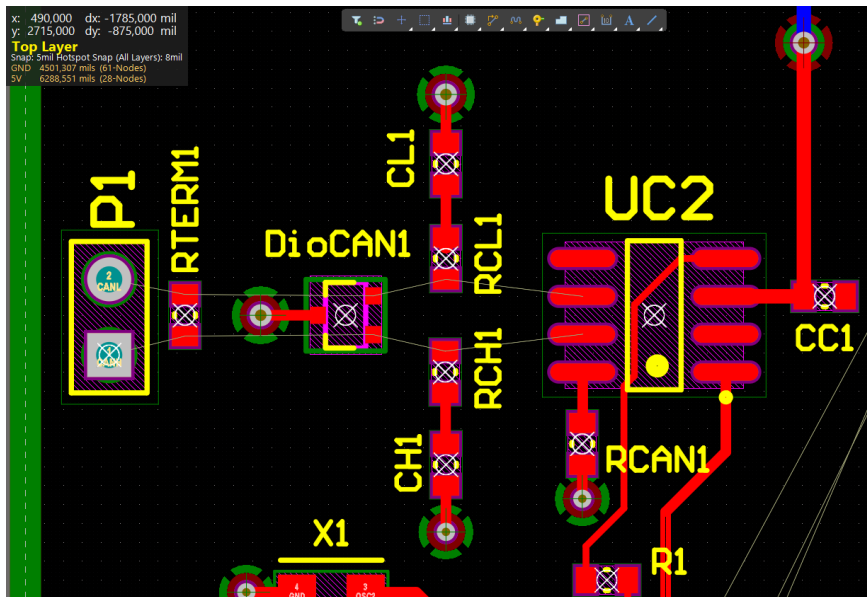

Figure 5. Connection lines (known as a Ratsnest) between un-routed components
24. Zoom into the area of the board near the upper left portion of the PCB shown in Figure 5 below. We will now route the connections between components P1, RTERM1, DiOCAN1, CH1, CL1, and UC2 through the following procedure: